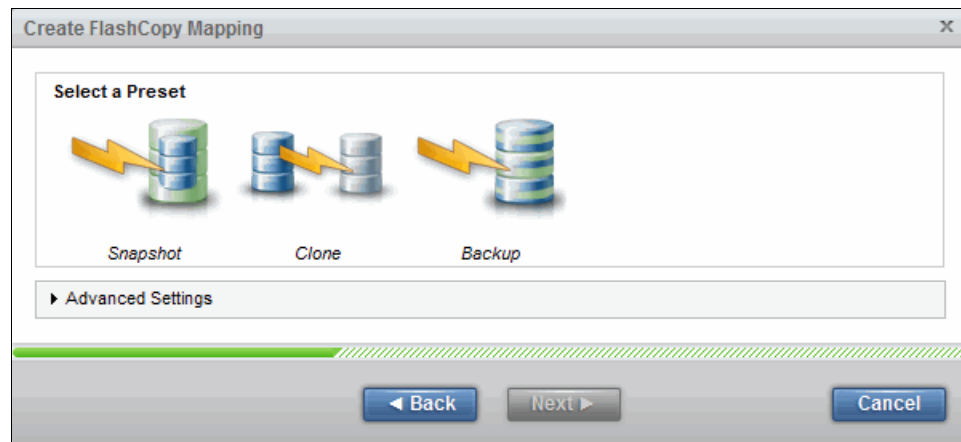

Figure 10-47 Choose FlashCopy preset
- Click **Next** and you see a FlashCopy preset choice, as shown in Figure 10-47.